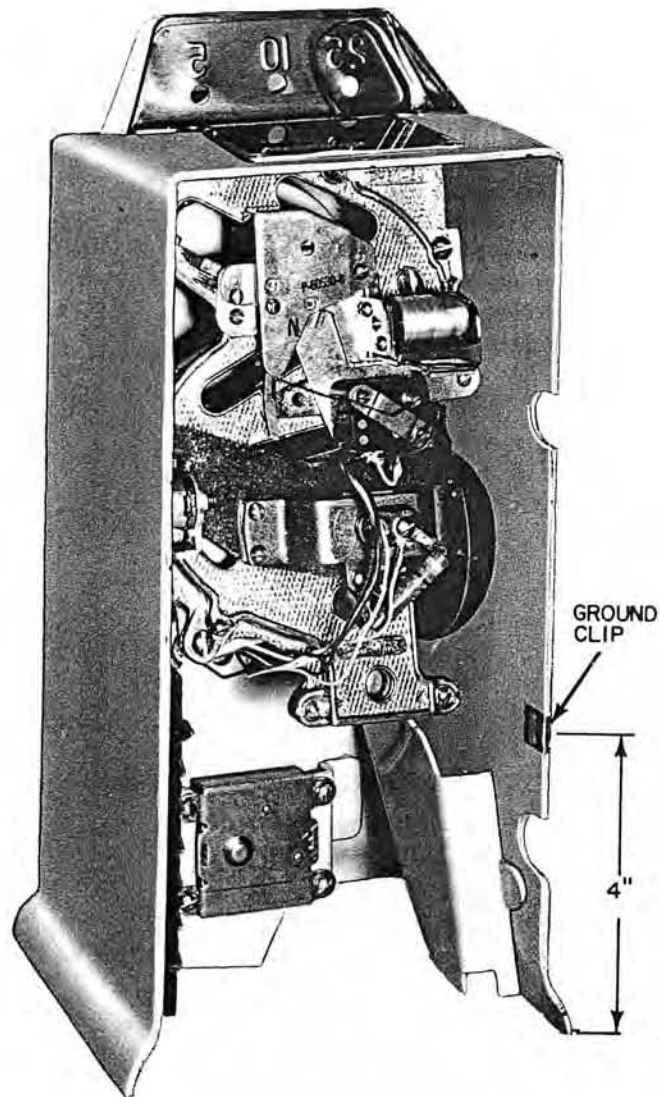

Figure 3. Ground Clip Attachment.
- (2) At the point on the edge of the upper housing which will contact the equalizing spring when the upper housing is installed (see Figure 3), remove sufficient paint from the inside surface so that a ground clip can make contact with the metal of the upper housing. Place a Tinnerman C-23405-012-3B ground clip on the upper housing at the point where it will contact the equalizing spring when the housing is installed.